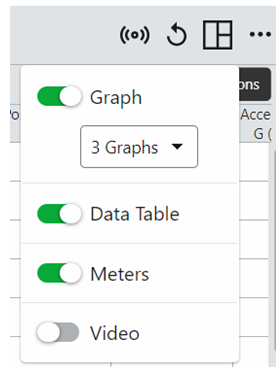

Figure 2
4. Click *View Options* , activate *Graph - 3 Graphs, Data Table, Meters* (Figure 2).